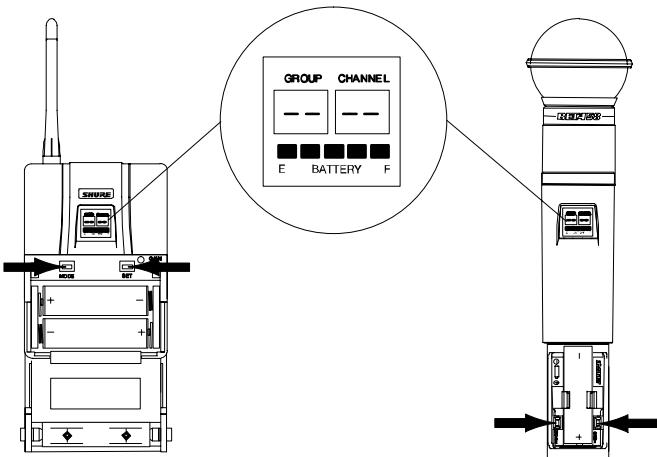

FIGURE 45
3. To verify that the frequency lock function is turned on, press the MODE or SET button. If the lock function is turned on, “—” appears on the transmitter screen, as shown in Figure 45.